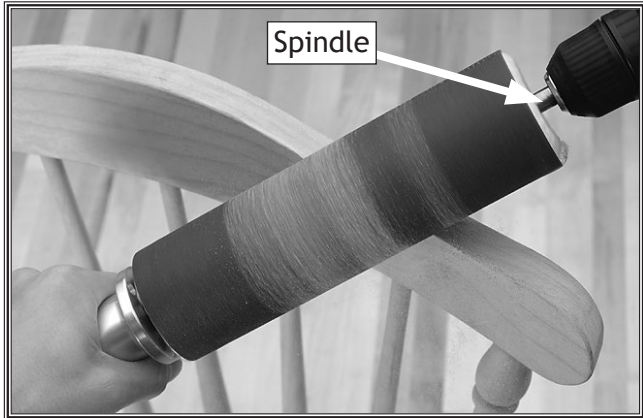

Figure 3. Pneumatic drum sander in action.
3. Secure drum sander spindle in chuck of desired tool (see **Figure 3**), then put on personal protective equipment.
4. While holding handle of sander firmly, turn tool **ON** to operate sanding drum, as shown in **Figure 3**.